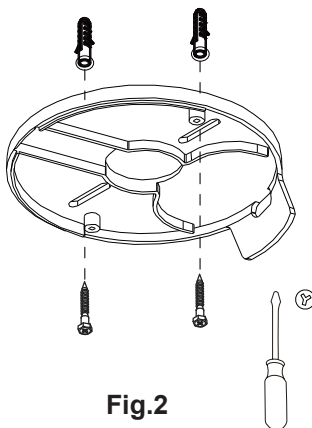

Fig.2
- Knock the plastic expansion screw into the hole which you drill and fix the base of the product on the selected place with the screws. (as fig.2)